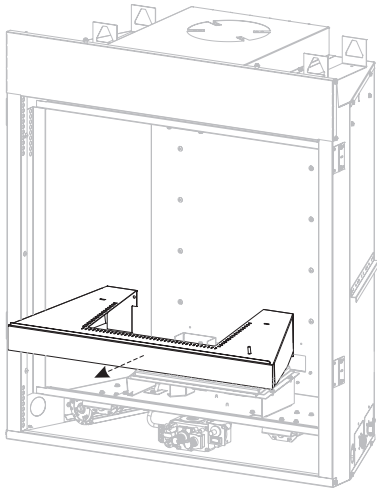

Figure 7
7. Remove burner cover by lifting off. **See Figure 7.**
14. Replace burner cover removed in step 7. **See Figure 7.**